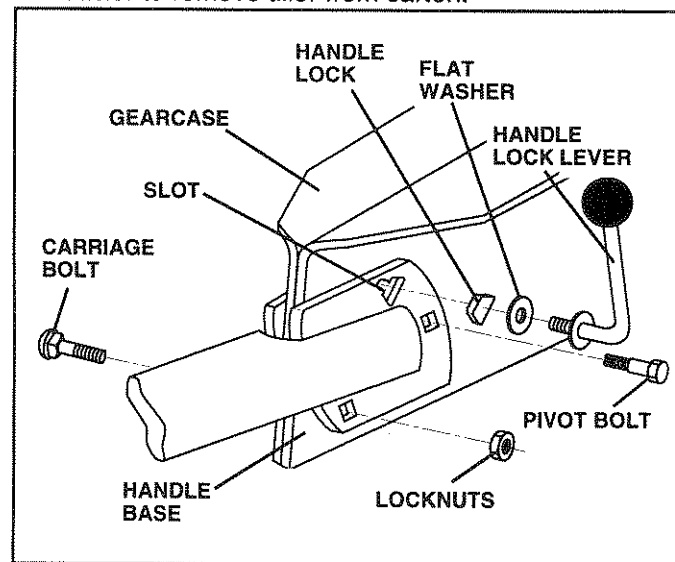

FIG. 5
- Rotate handle assembly down. Insert rear carriage bolt first, with bolt head on L.H. side of tiller and loose assemble locknut (See Fig. 5).